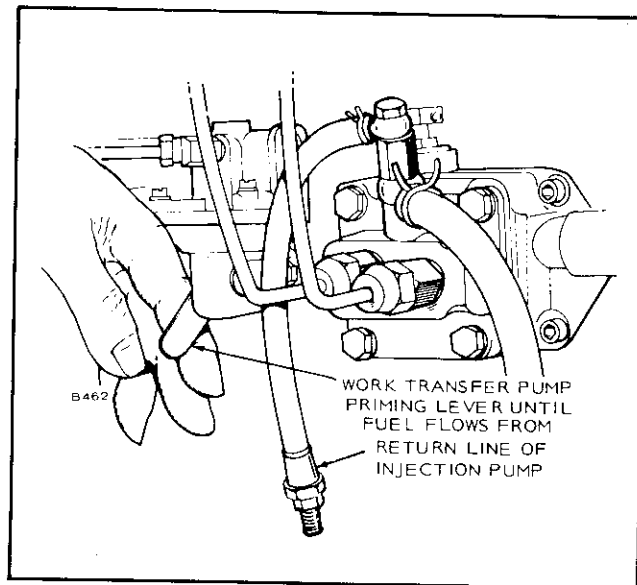

FIGURE 3-44. BLEEDING FUEL SYSTEM
2. Operate hand priming lever on diaphragm type fuel transfer pump until there are no air bubbles in fuel flowing from the fuel return line, Figure 3-44.